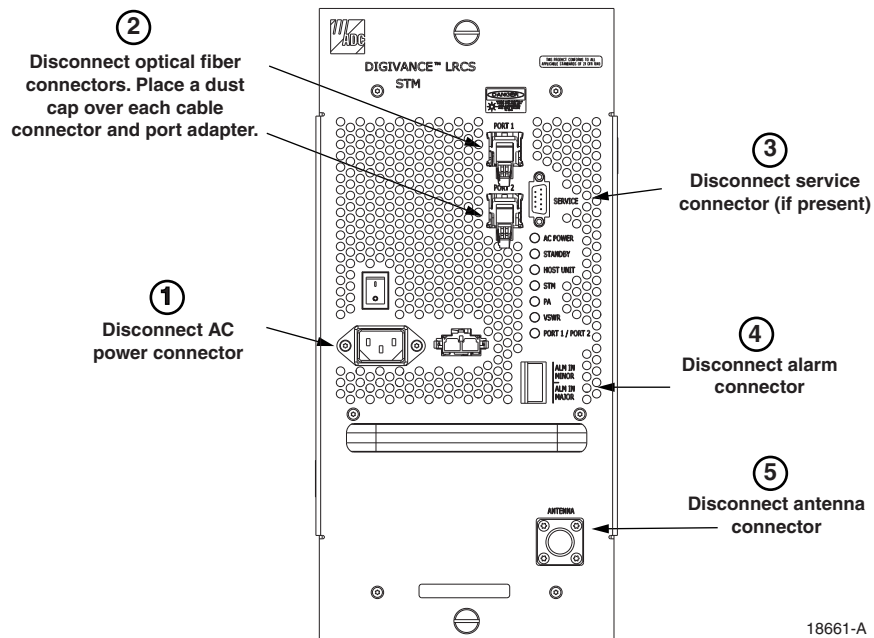

Figure 5-4. Spectrum Transport Module Cable Connections
4. Disconnect the various power, fiber optic, service, alarm wiring, and coaxial cable connectors from the STM front panel as specified in Figure 5-4.
14. Re-install the STM in the outdoor cabinet or indoor mounting shelf and then re-connect all cables in the reverse order in which they were disconnected (see Figure 5-4).